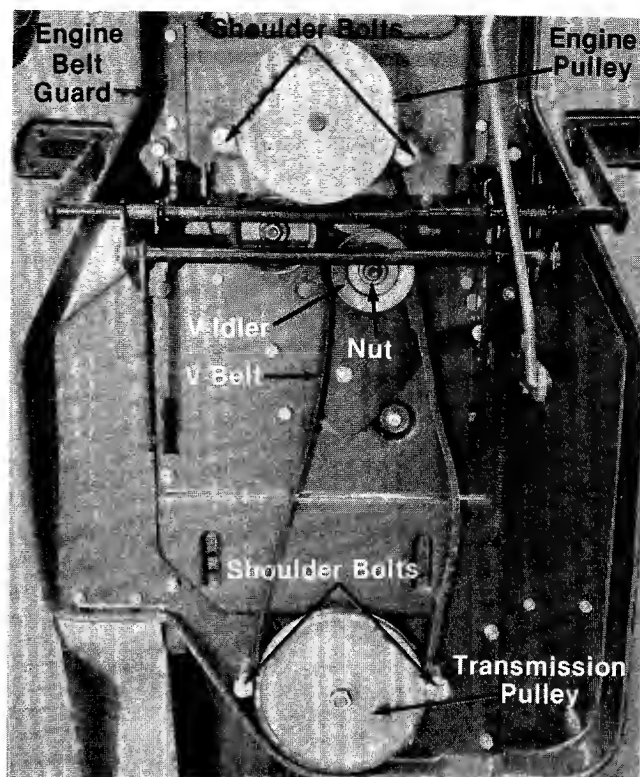

FIGURE 39.
2. Remove the two shoulder bolts by the engine pulley. See figure 39.
5. Remove the two shoulder bolts from the engine pulley. See figure 39.
8. Remove the engine belt guard. See figure 39.
9. Remove the nut on the V-idler and slide the idler off the bracket. See figure 39.
10. Remove the two shoulder bolts by the transmission pulley. See figure 39.